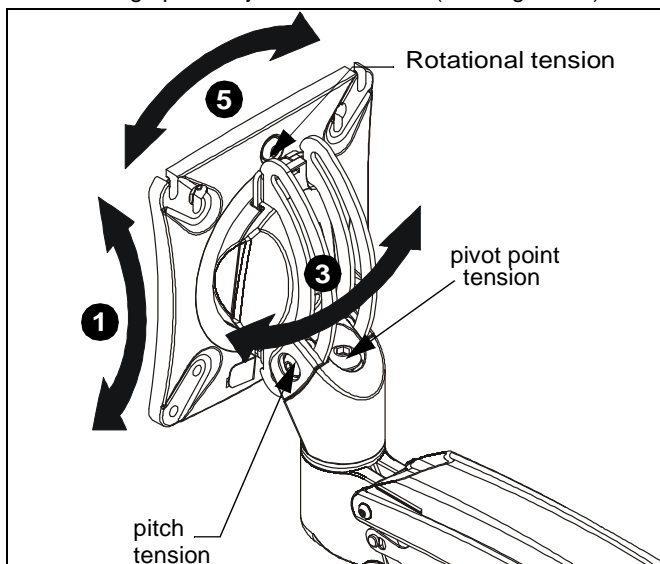

Figure 14
- Adjust pitch to desired tilt position. (See Figure 14)
- Adjust pitch tension screw to change the adjustment tension. (See Figure 14)
- Adjust pivot position as desired. (See Figure 14)
- Use 3/16" hex key (M) to adjust pivot point tension screws to change pivot adjustment tension. (See Figure 14)
- The monitor may be adjusted 90 degrees in either direction in order to provide a portrait view of the monitor. (See Figure 14)
- Use 3/16" hex key (M) to adjust rotational adjustment screw to adjust rotational tension. (See Figure 14)